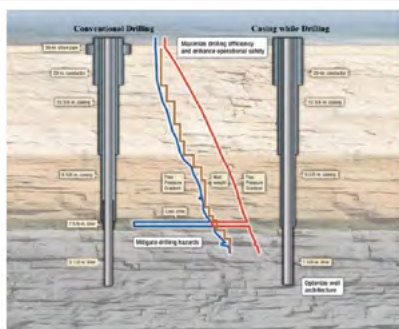
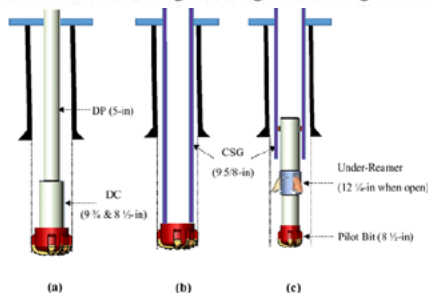
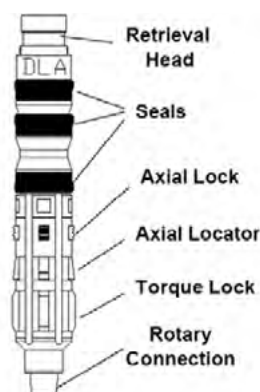

Fig. 1. Conventional drilling vs. casing while drilling technology.
Fig. 2. Conventional drilling BHA vs. casing while drilling BHA.
Fig. 3. Drill lock assembly.
As deeper, more complex, and costly reservoirs are developed, there is a growing demand for solutions that improve drilling efficiency while minimizing risks and costs. Casing while drilling (CwD) technology addresses this by allowing the casing to reach total depth (TD) and optimize the well structure, especially in soft formations with borehole issues in the top section. CwD's bottom hole assembly (BHA) typically includes a pilot bit, reamer, stabilizer, and drill lock assembly (DLA), with the DLA acting as the hydraulic sealing connection between the drilling assembly and casing string (Fig. 1 and Fig. 2). This study focuses on the maximum allowable well shut-in time as a measure of kick tolerance and inflow rate, comparing well control in a simulated vertical well drilled conventionally and with CwD, using a single-phase kick tolerance model with water-based mud and a gas kick (Fig. 3)..